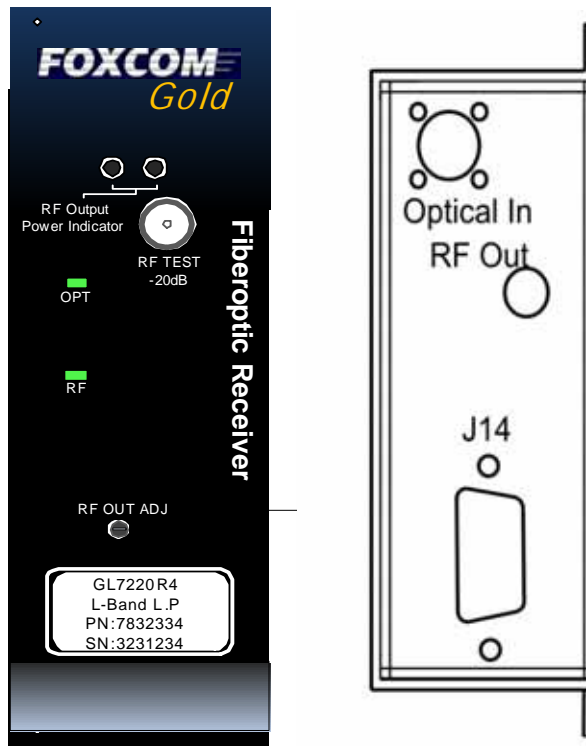

Figure 2 Gold Receiver Front and Rear Panels
6. On the Transmitter front panel, switch the Gain Control Toggle switch to the appropriate operating mode. See Figure 2 Gold Transmitter Front and Rear Panels on page 3